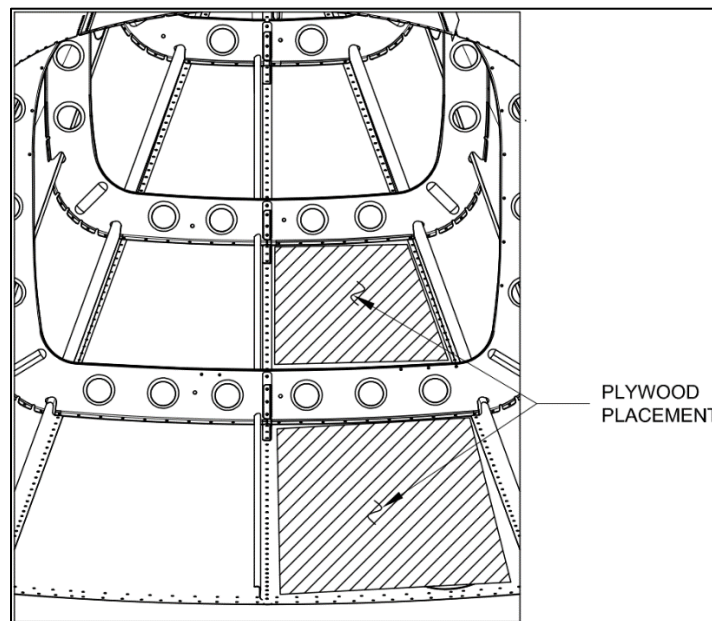

Figure 1 - Example Plywood Support Placement
Step 3: Fabricate platform sections from plywood to be placed on the skins between the stiffeners as shown in Figure 1 to provide support during completion of this service bulletin.